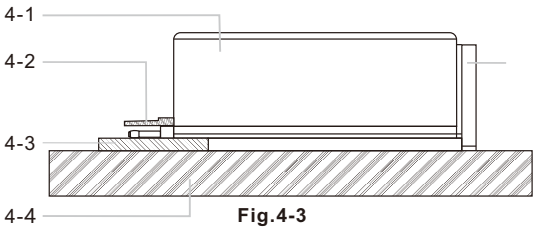

Fig.4-3
- J. Adjustable leg and sheath of sensor When the measured surface of the part is smaller than the measured surface of the part is smaller than the bottom surface of the instrument, the sheath of sensor and adjustable leg can be used for auxiliary support to complete measurement. (as shown in Figure 4-3)